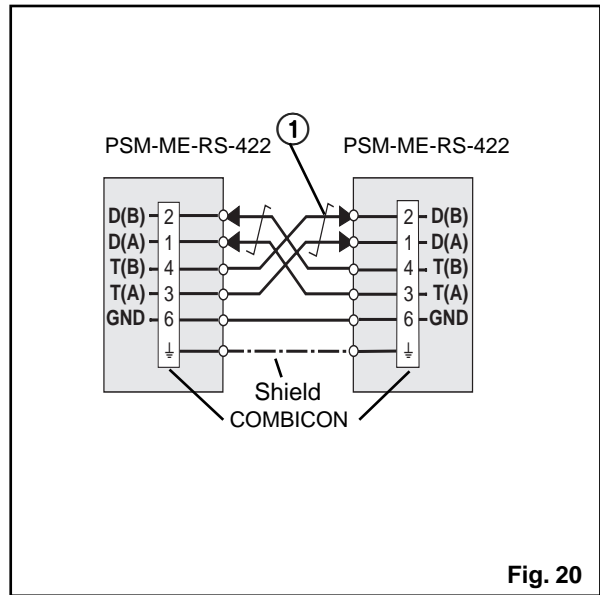

Fig. 20
- 4) To couple two RS-422 interfaces, connect the connections acc. to fig. 20. (① = twisted pair) When connecting the device, take into account that it is necessary to cross transmitted and received data. GND connection is recommended, but is not essential.